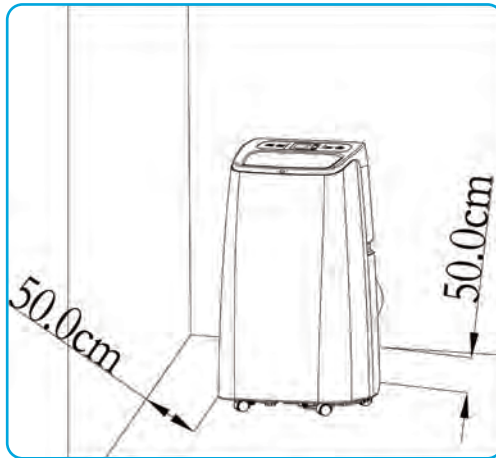

Figure 4
- Move the machine with installed heat hose and fittings near the window. The distance between the unit and walls or other objects shall be least 50cm (as shown in Figure 4)